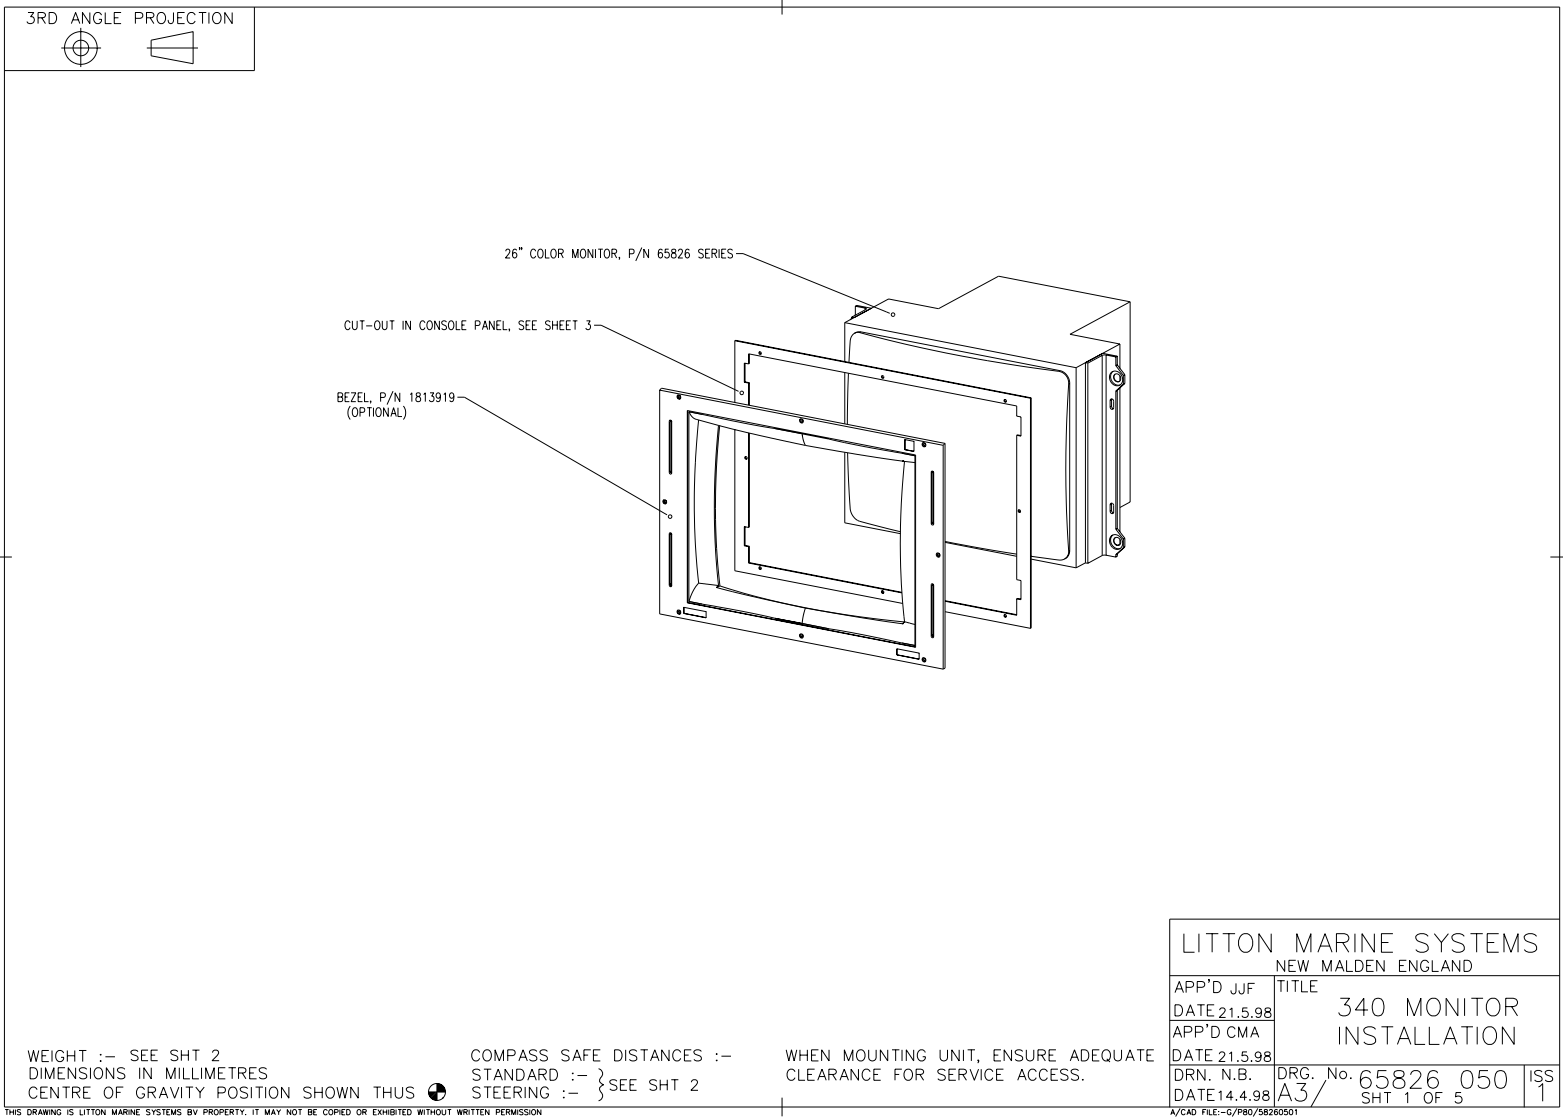

Figure 3.4 - 340 Monitor Installation (Sheet 1 of 5)
- Refer to Figures 3.4 to 3.8 for installing the 340 Monitor into a console.